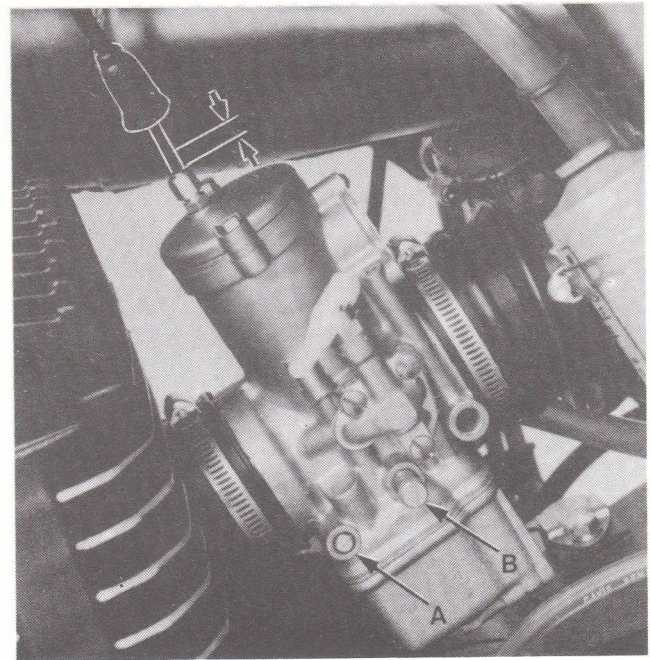

Fig. 12 - Carburetor adjustment
Slow running adjustment should be made with the engine already warmed up. When engine is at slow idle, screw the idle mixture adjusting screw (A - fig. 12) inward until seated; then screw it out until the engine idles at a high speed. Unscrew the throttle-stop screw (B) to obtain a normal idle. Repeat the procedure screwing in or out the idle mixture adjusting screw, until the normal idle is obtained.